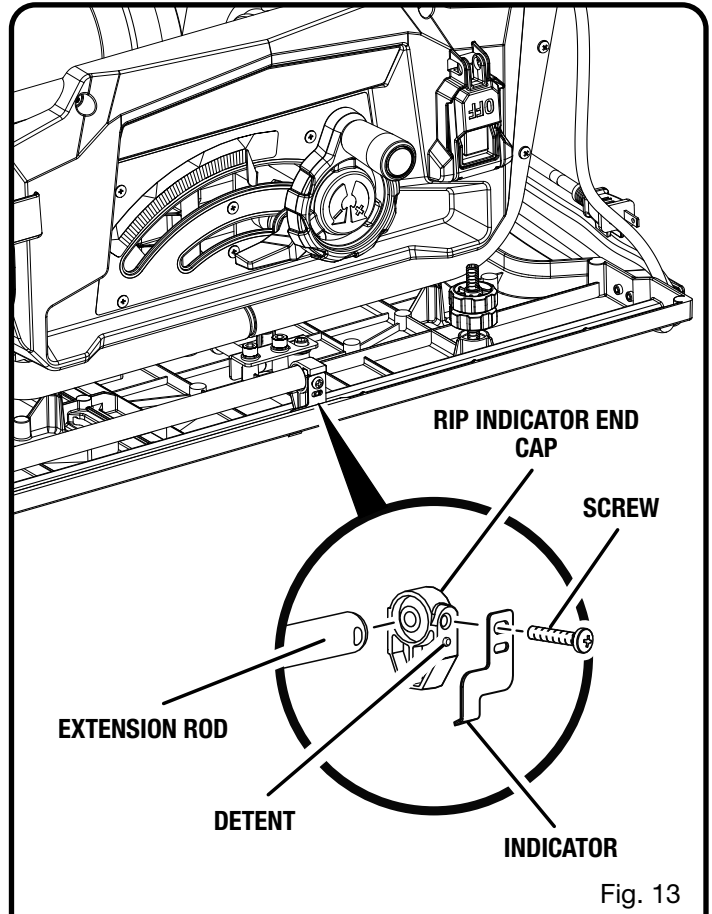

Fig. 13
- Press the end cap over the front extension rod (see figure 13).